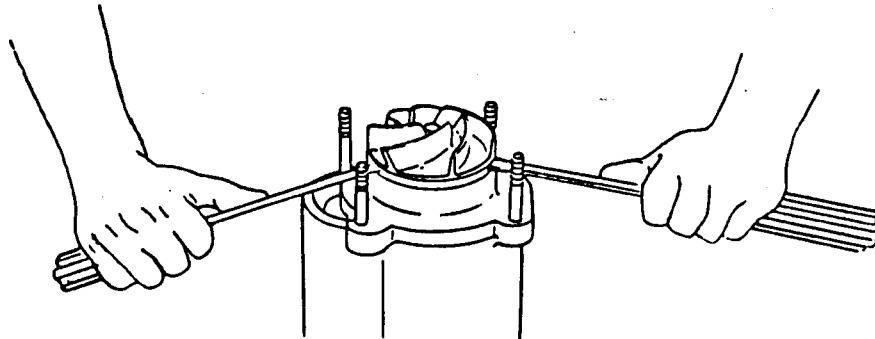

Figure 2. Removing Pump Impeller
Remove the wood and pry the impeller off using two flat-bladed screwdrivers as shown in Figure 2. Retain the impeller key (61). Use caution when removing the impeller from the shaft; tension on the seal spring will be released, and the seal plate (54) will become a free part.